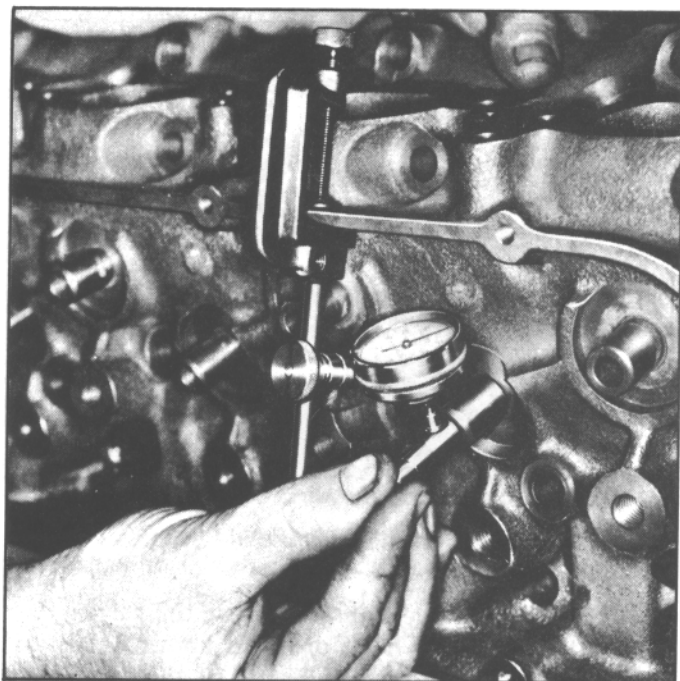

Fig. 99. Measuring Valve Stem Clearance
3. Measure valve stem clearance (Fig. 99) as follows: Clamp a dial indicator on one side of the cylinder head rocker arm cover gasket rail, locating the indicator so that movement of the valve stem from side to side (crosswise to the head) will cause a direct movement of the indicator stem. The indicator stem must contact the